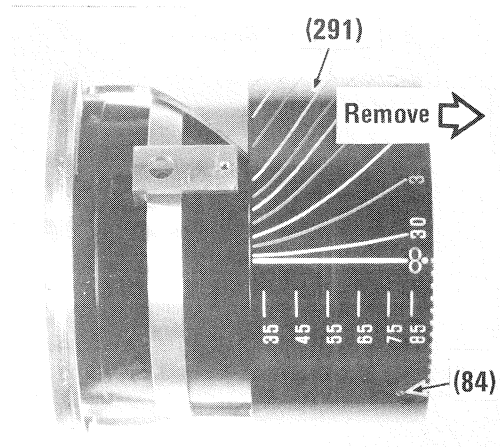

FIG. 4-7
- g) Remove three setscrews (84); slide index ring (291) off to rear of lens, as shown in Fig. 4-7.